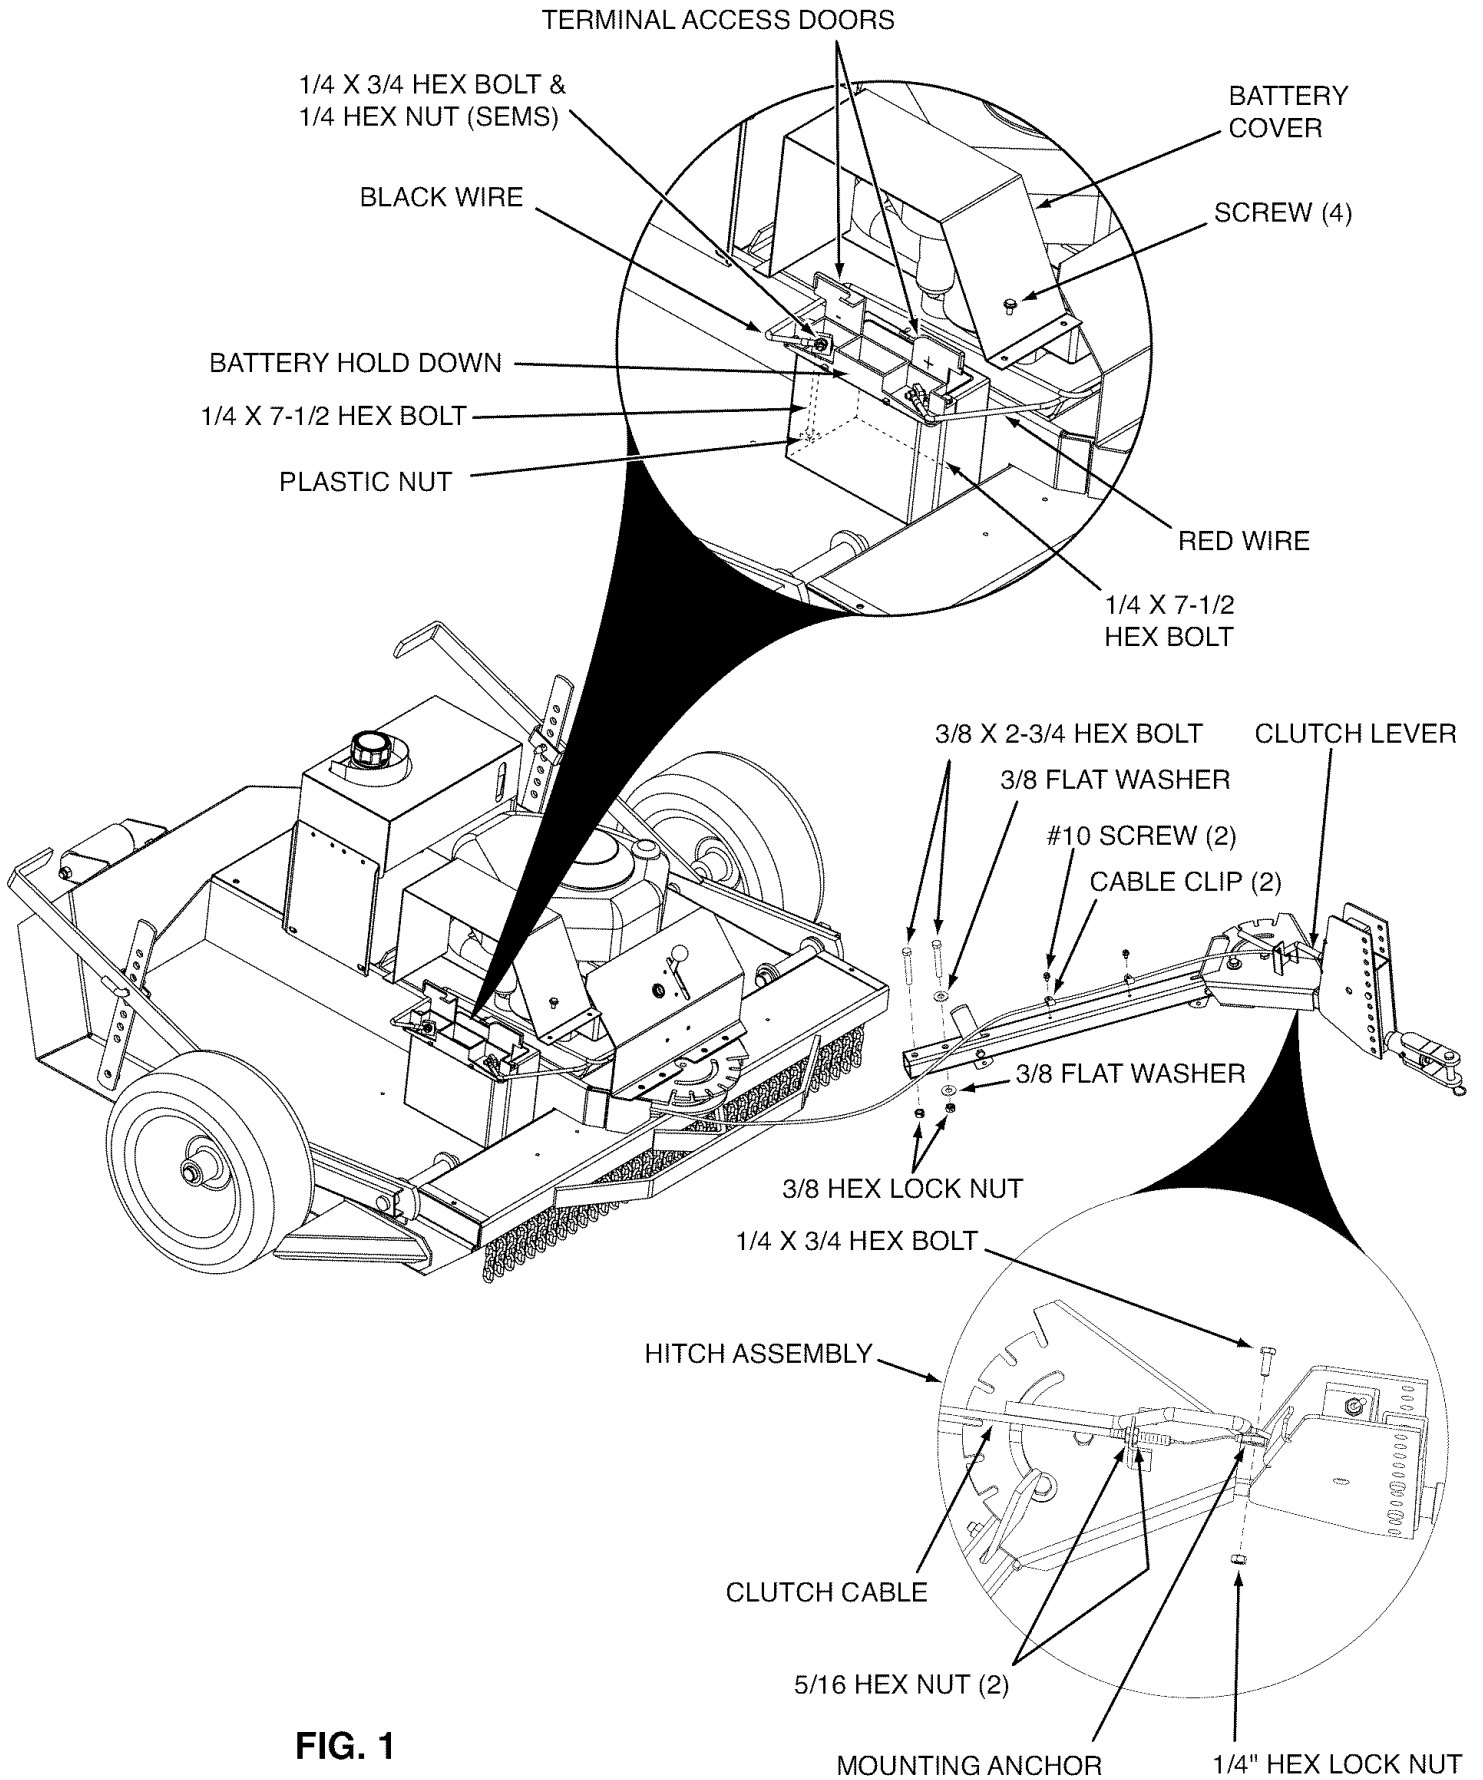

FIG. 1
- Remove outer 5/16 Nut from end of Clutch Cable Housing. (See Fig. 1)